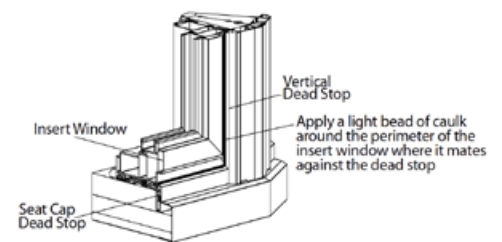

Figure G1
- After proper cleaning, apply a "light" bead of caulking along the entire perimeter of opening where insert window is pushed against dead stops. (**Figure G1-G2**)